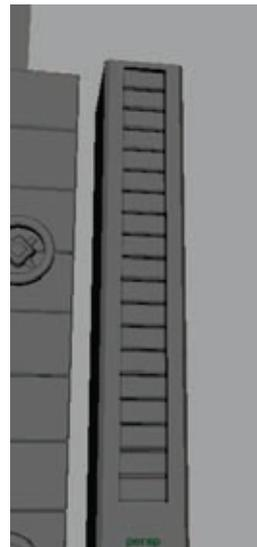

Figure 5.30
4. Create a small rectangular cube. Bevel all the cubes edges and place it within the column's cavity at the top. Duplicate the cube and move the duplicate down so that it is flush with the original. Continue to Duplicate With Transform (Shift+D) to create a column of small bricks stacked on top of one another within the cavity of the column, like in Figure 5.30.